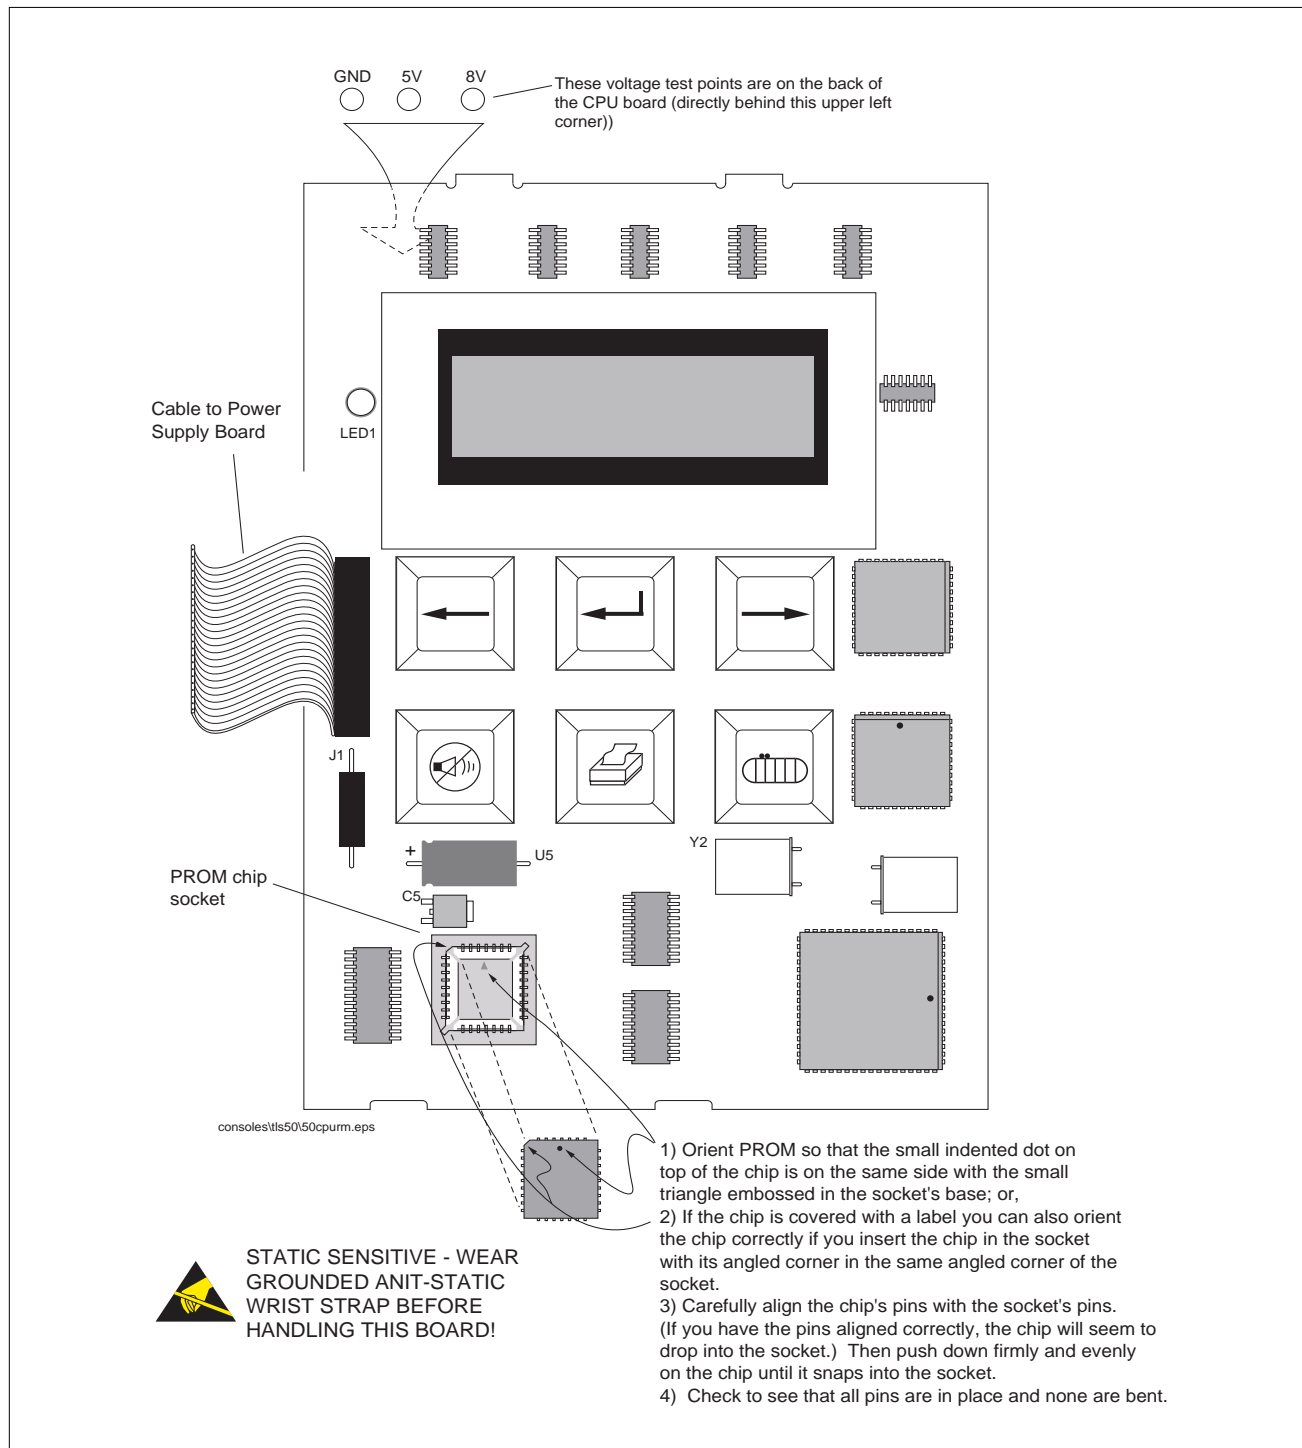

Figure 26. Replacing PROM Chip (Keypad/Display version shown)
7. Replace the PROM chip following instructions in Figure 26.